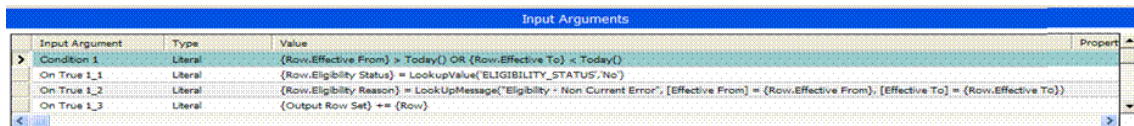

Figure 20. Example of Conditions and Actions for a PSP Procedure
Conditions and actions for each step are entered as input arguments in Siebel Workflow's Process Designer in Siebel Tools, as shown in an example in Figure 20:
- You can specify multiple actions for one condition by using a different index number for the condition name. In the Figure 20 example, there are multiple actions for the On True 1 condition, with the condition name On True 1_1, On True 1_2, and On True 1_3.
- Some Row Set Transformation Toolkit business service methods can include one or more Boolean conditions to which the other conditions refer. In the Figure 20 example, Condition 1 is a Boolean condition which checks the values in the Effective From and Effective To fields. The conditions On True 1_1, On True 1_2, and On True 1_3 are true if this Boolean condition is true.